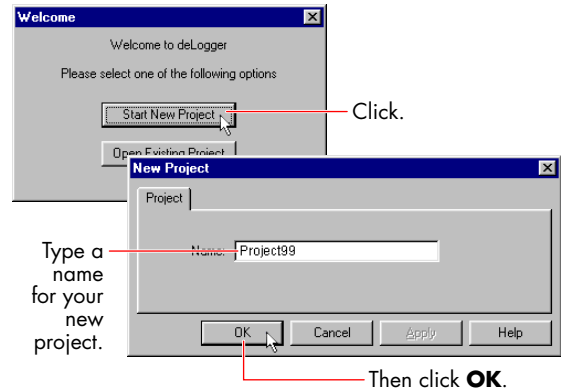

FIGURE 13 Creating a new DeLogger project
- c) In the Welcome dialog box, click **Start New Project** (Figure 13).
- d) In the New Project dialog box that opens, type **Project99** (or whatever you like) and click **OK** (Figure 13).